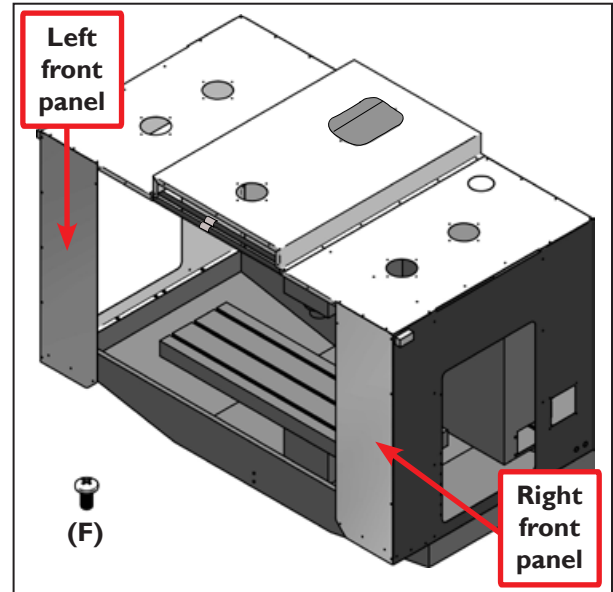

Figure 11
29. Place the Left Front Panel (E.15) onto the left front corner. Loosely fasten with (F) screws along the side and top edges of the front panel (see **Figure 11**).
30. Place the Right Front Panel (E.14) onto the right front corner (see **Figure 11**). Loosely fasten with (F) screws along the side and top edges of the front panel.